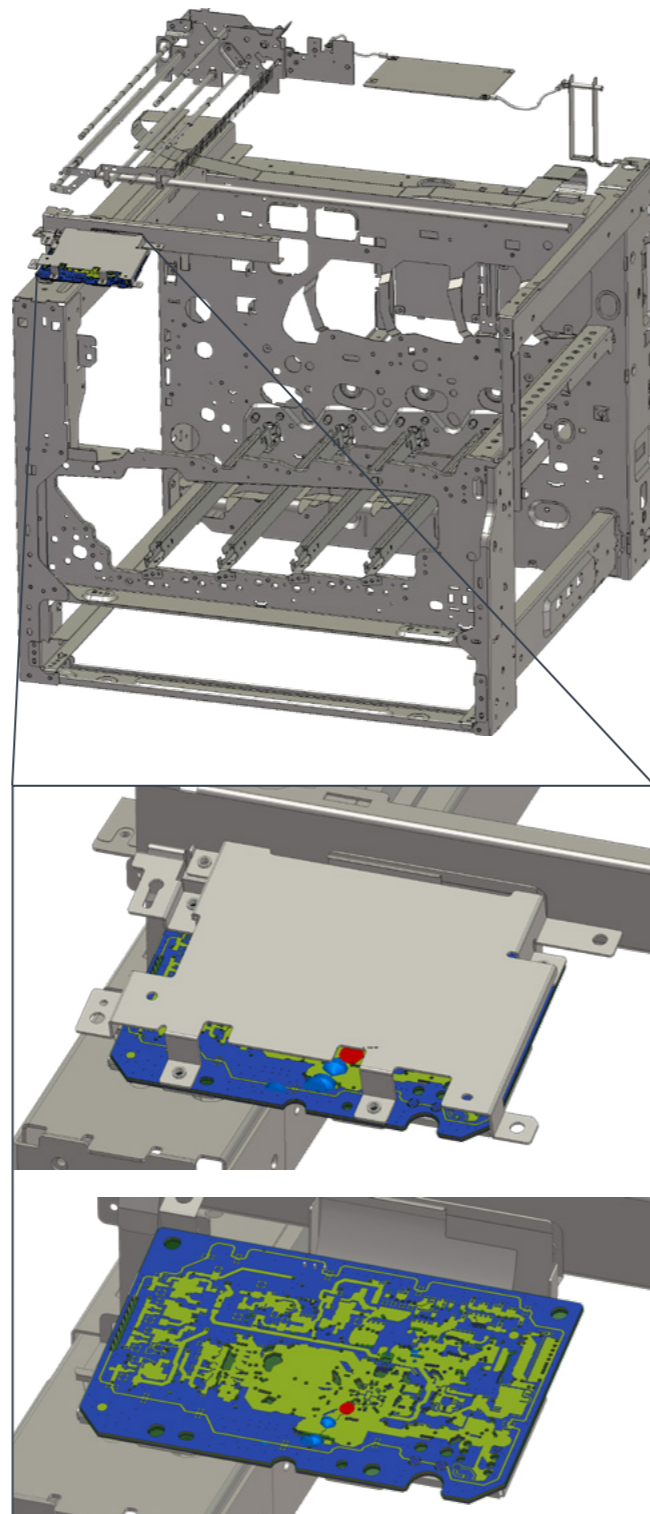

Figure 2: Variations of scale in a printer, from the metal frame to the individual PCB traces
When prototyping the printer, one area where Fuji Xerox saw EMC issues was the user interface (UI) unit. Testing revealed that changing the number of contacts between the unit and the frame improved EMC performance, but didn't identify the coupling paths that caused issues. To simulate this effectively, Fuji Xerox needed to be able to simulate both the UI PCB and the frame of the printer. The variation in scale between the two meant that this would be a challenging task (Figure 2).